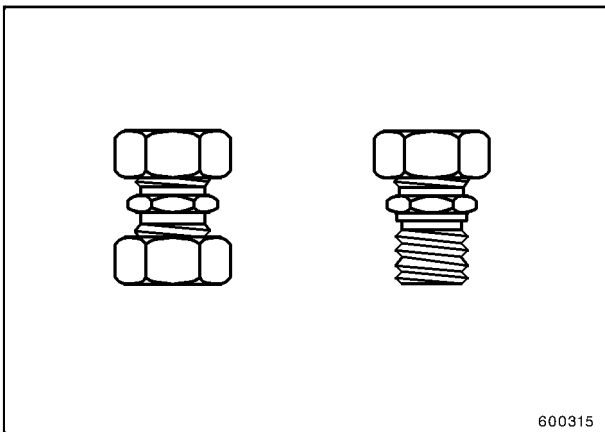

Fig. 1
- straight couplings (Fig. 1),